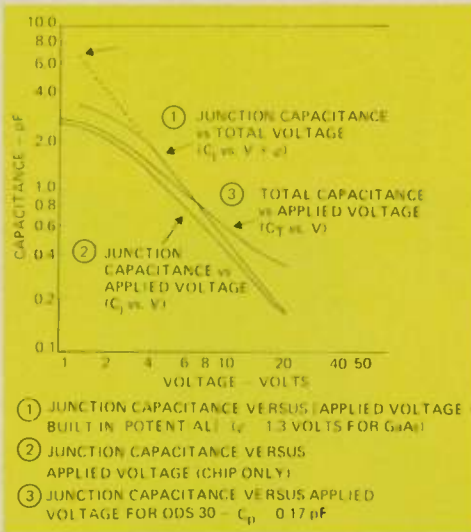

Fig. 1 GaAs Hyperabrupt C-V characteristics (Typical Hyperabrupt).
From Equation (1), we observe that gamma is determined as the slope of the plot of junction capacitance C_j , versus total voltage (applied voltage plus built-in potential) on log-log graph paper. A typical plot of the new constant γ hyperabrupt tuning varactors is illustrated in Figure 1 where the slope of curve ① is a constant $\gamma = 1.25$ over the applied voltage range of 2-20 volts. Notice that constant gamma is not maintained at low applied voltages, so $C_o = 6.6$ pF is a mathematical value determined by extending the constant slope to $V = 0$ (or $V + \phi = 1.3$). The capacitance versus applied voltage curve ② is also shown in Figure 1 for the chip, and curve ③ illustrates the C-V curve when the chip is mounted in an ODS-30 package having package capacitance of 0.17 pF.